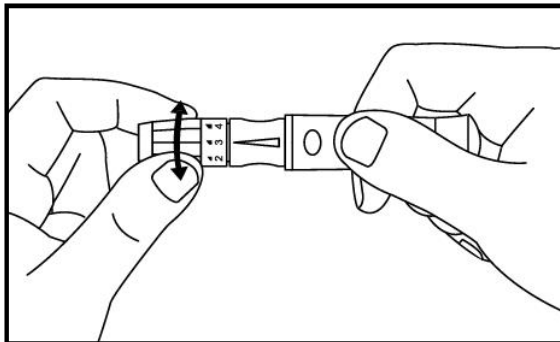

Fig. 26
Step 5: Adjust the puncture depth by rotating the lancing device cover. There are a total of 6 puncture depth settings. To reduce discomfort, use the lowest setting that still produces an adequate drop of blood.(Ref Fig. 26)